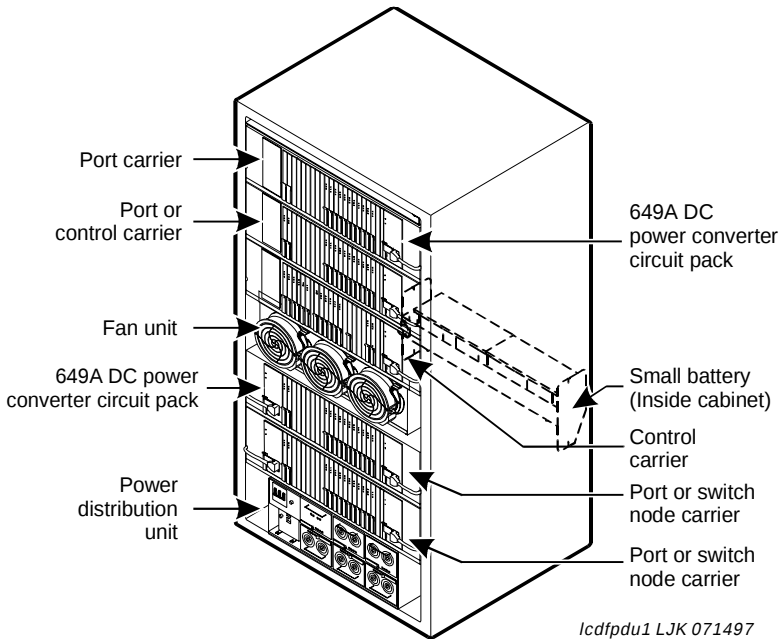

Figure 29. Power Distribution in Multicarrier Cabinets
Figure 29 shows the power distribution in some Multi-Carrier Cabinets with short term battery holdover (small battery). In R7r and later systems, the power distribution cables are on the right hand side of the cabinet only. This is because the 649A DC power converter circuit pack replaces 2 power converters at either end of each carrier. Switch node (SN) carriers require two 649As and 2 cables.